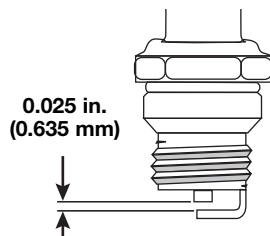

Fig. 38
4. Replace cracked, fouled or dirty spark plug. Set the air gap at 0.025 in. (0.635 mm.) using a feeler gauge (Fig. 38).